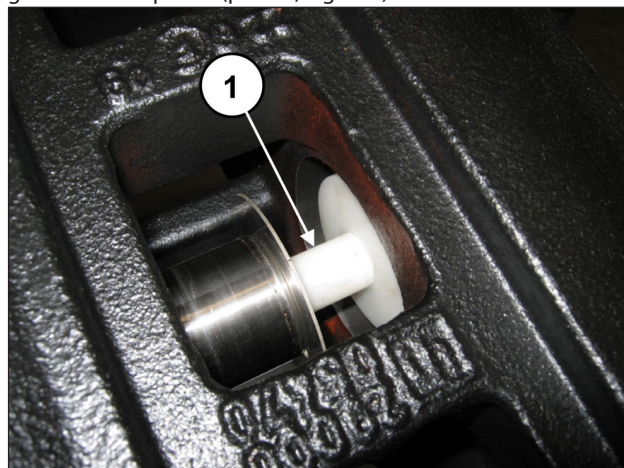

Fig. 174
Insert the buffering tool code 27632500 between the piston guide and the piston (pos. ①, Fig. 174).